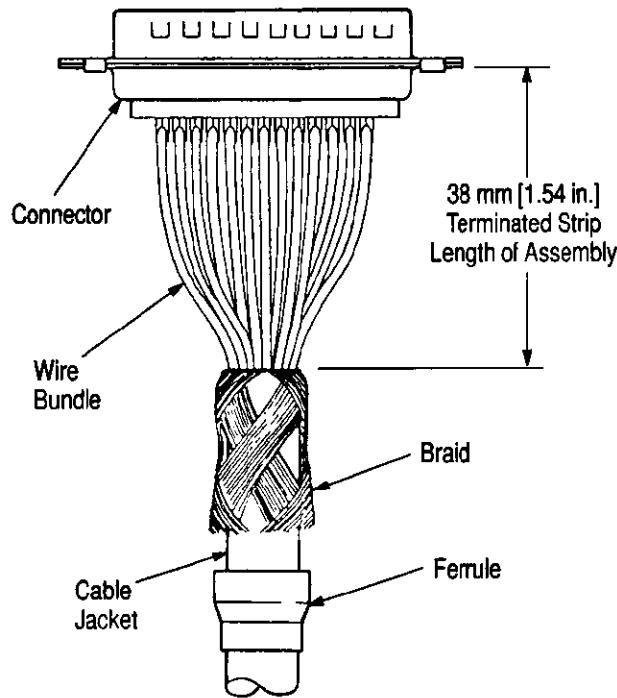

Figure 3
1. Measure the terminated length of the assembly as shown in Figure 3.
CAUTION *The length must be as indicated in Figure 3 and must conform to the configuration as shown in the illustration; otherwise, wires may be pinched between the shields when they are closed. The proper length and configuration may be achieved by twisting (and thereby shortening) the wire bundle after solder termination; however, make certain that no undue stress is placed on the soldered contacts during the procedure. The MAXIMUM amount that the bundle may be twisted to achieve the desired length is 90°.*